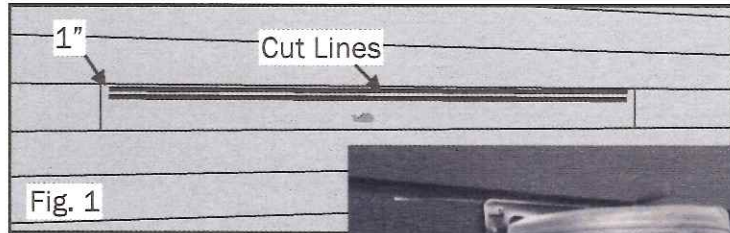

Fig. 1
- cut a 1" strip along the length of the panel just under the panel above. (Fig. 1)
- If corners are to be mitered, they should be glued and secured with weather resistant screws as shown in figure 1.